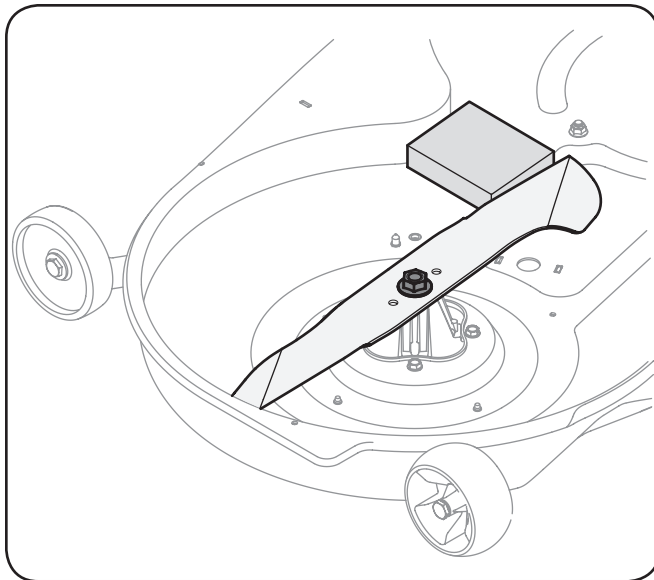

Figure 7-10
2. Place a block of wood between the center deck housing baffle and the cutting deck to act as a stabilizer. See Fig. 7-10.
3. Remove the hex flange nut that secured the blade to the spindle assembly. See Fig. 7-10.